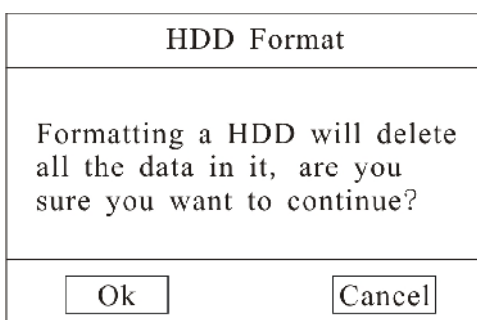

Fig. 18
- **HDD Format:** Move cursor to the HDD which will be formatted, press “Enter” key to get into HDD format interface as shown in Fig. 18.